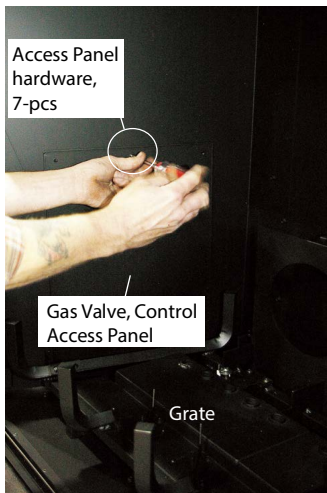

Figure 28. (Removing the panel hardware).
Step 3. Once these two steps are complete, remove the eight (8) machine screw that hold the Side panels in place, **Figure 28**. (**Philips head screwdriver required**).